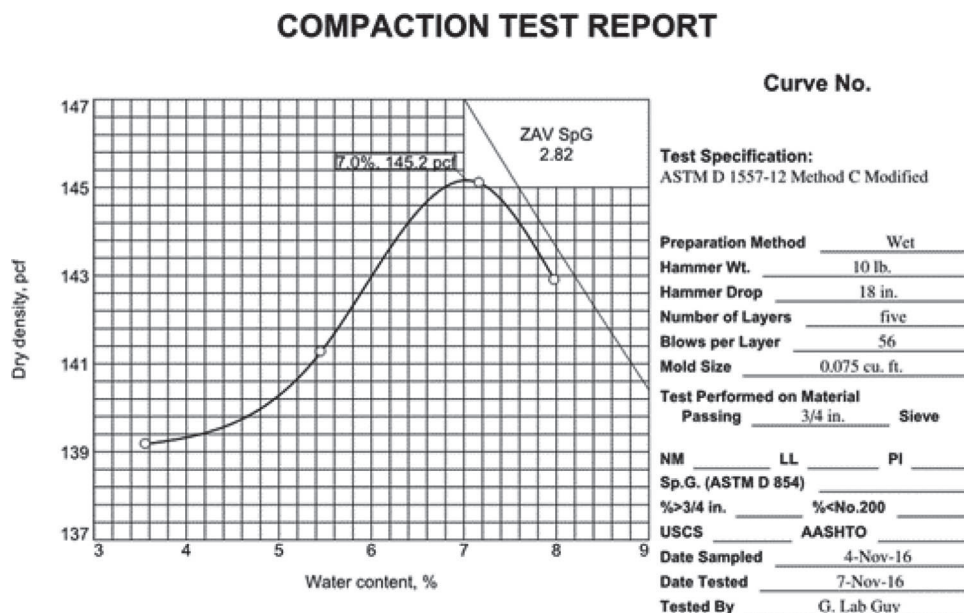

Fig. 3—Example of laboratory report. (Figure courtesy of Flood Testing Laboratories, Inc.) (Note: 1 in. = 25 mm; 1 lb = 0.45 kg; 1 ft³ = 0.03 m³.)
Step 1: Determine the relationship between RCC moisture content and density per **ASTM D1557**. The results will likely be reported as a plot of dry density versus moisture content. Figure 3 shows an example of this type of report.